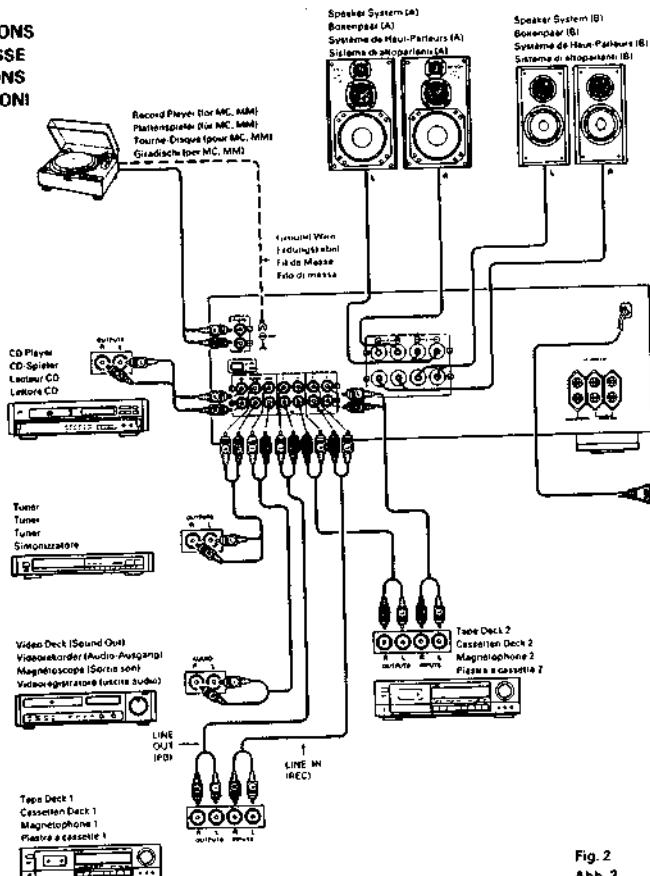

Fig. 2
- Make sure that all the connections are proper by referring to the back panel. (Fig. 2, 3)